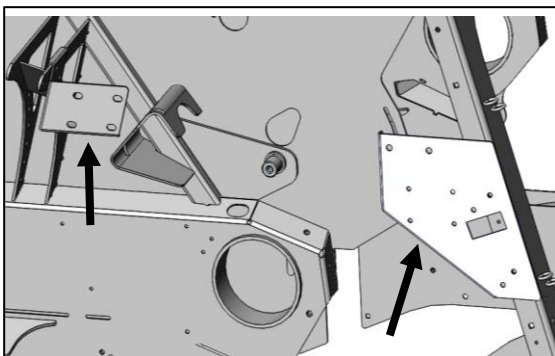

Figure 4
4. Once holes are drilled secure (001-4703XF) to door support bracket with two 3/8" x 3/4" hex bolts, flat washers, lock washers, and nuts figure 4.